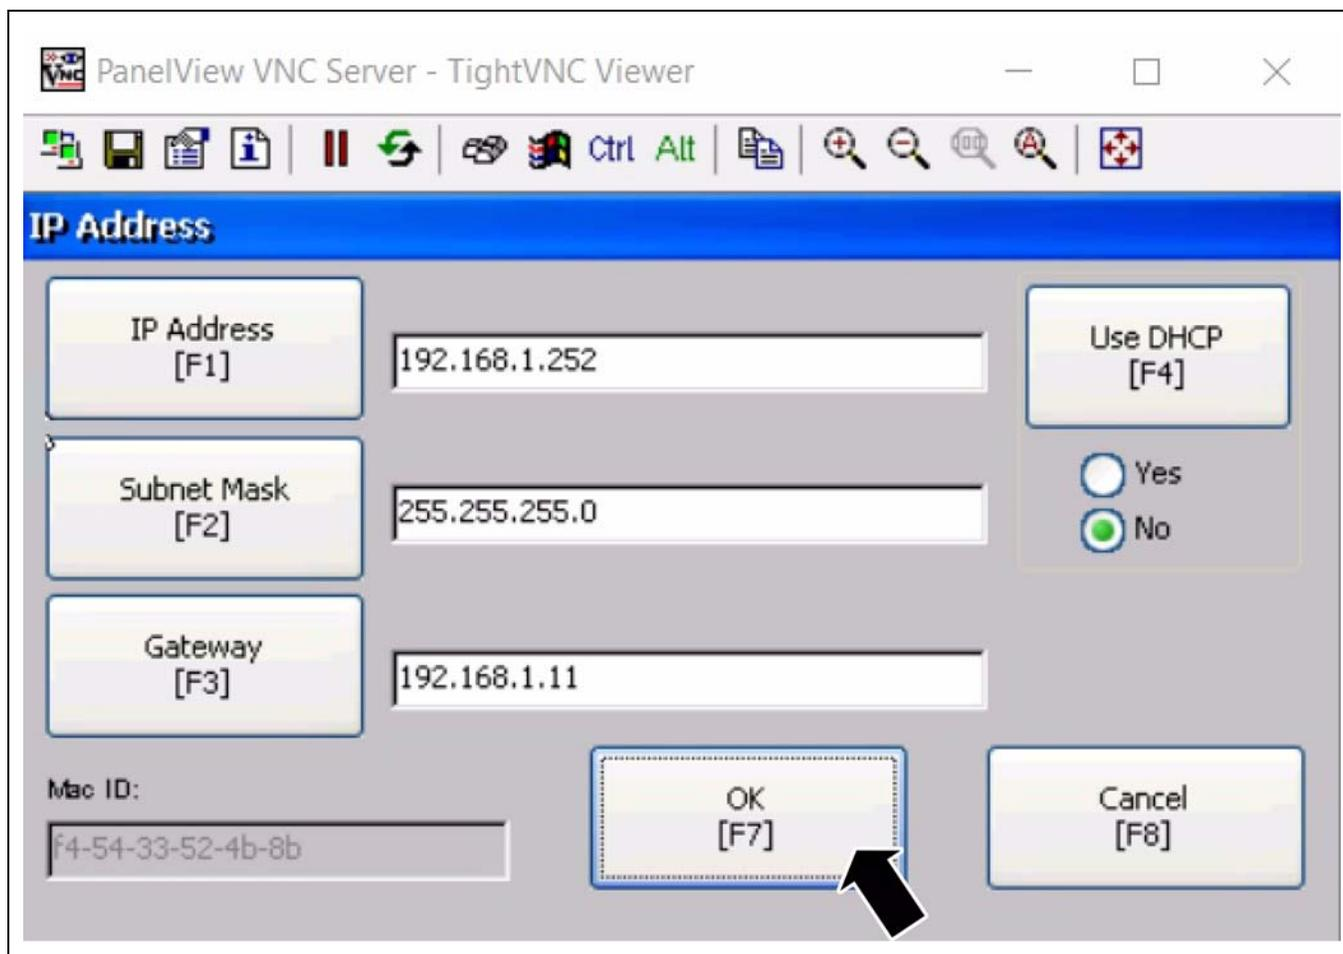

Figure 4l
9. Press OK to be taken back to the screen below. Continue to cancel out to get to the FactoryTalk menu. (See Figure 4l.)